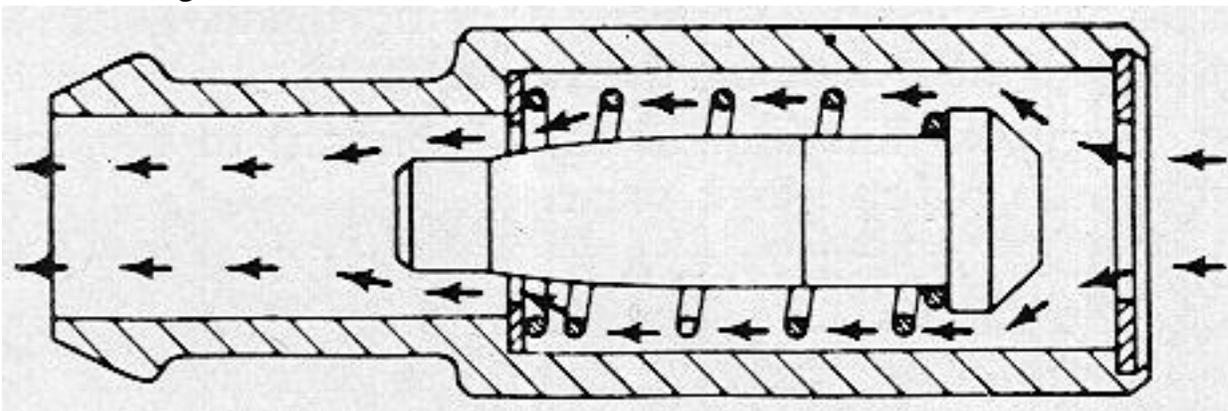

FIG. C-5—POSITIVE CRANKCASE VENTILATING VALVE
- d. Insert a stiff wire in valve body and observe whether or not the valve plunger can be easily moved. Refer to Fig. C-5.